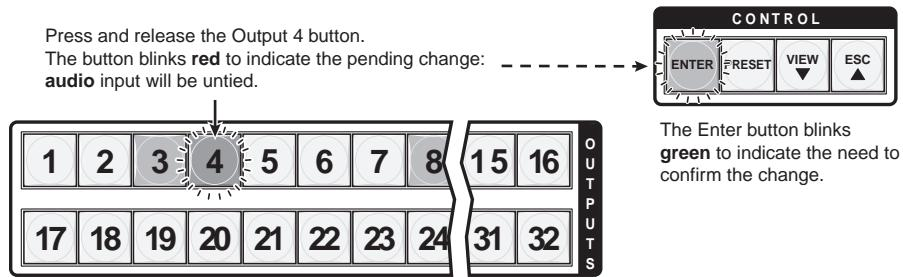

Figure 3-20 — Deselect the output
4. Press and release the output 4 button (figure 3-20).